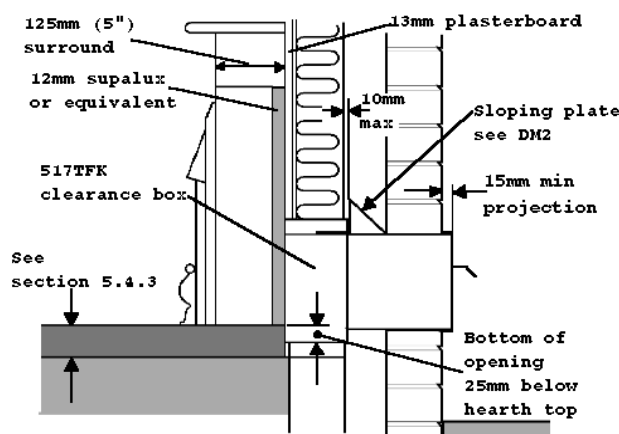

Figure 9a
5.4.11 Installing the clearance kit in the cut opening (See figure 9a).